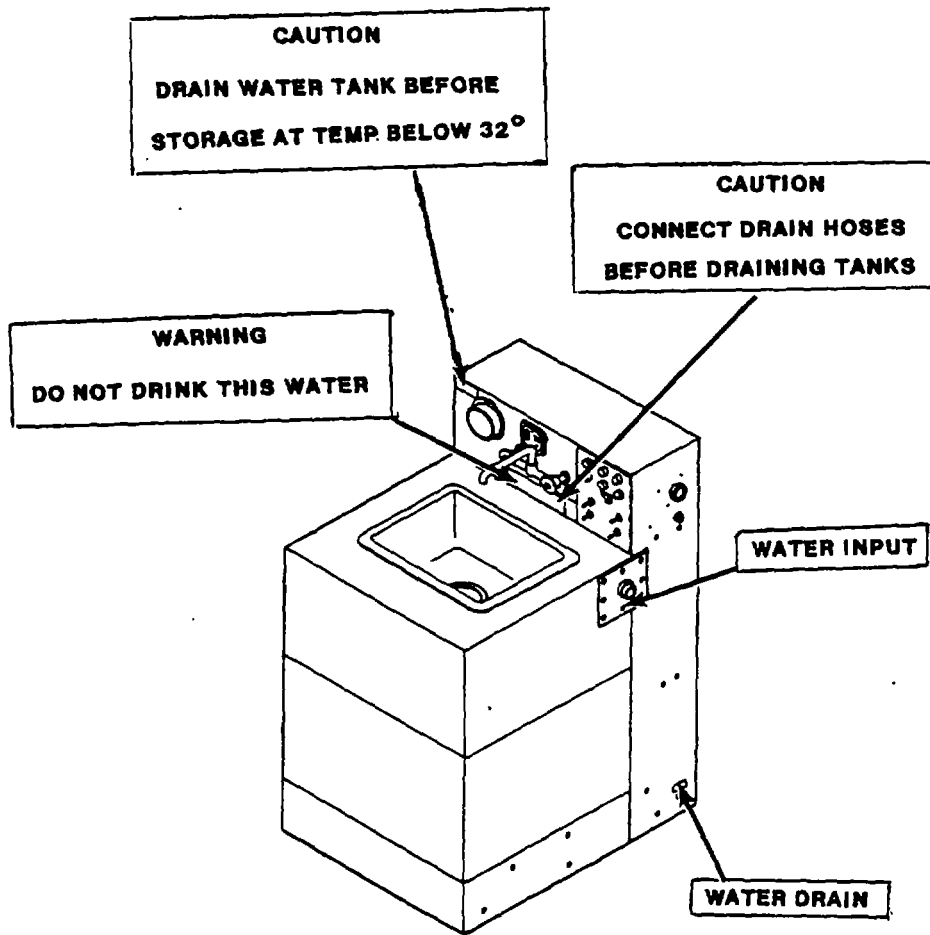

Figure 2-21. Sink Assembly Decal Locations
b. Sink Assembly. Figure 2-21 below identifies decals on the Sink Assembly.